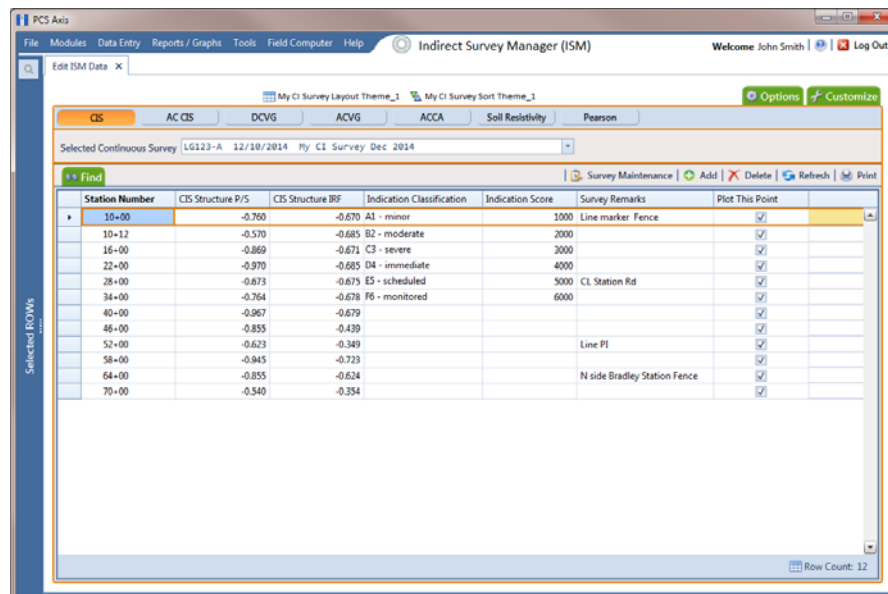

Figure 7-66. Edit ISM Data
- 3 Click **Data Entry > Edit ISM Data** to open the ISM data entry grid. Then click a button labeled with the type of continuous survey data you want to work with, such as the **CIS** button  (Figure 7-66).